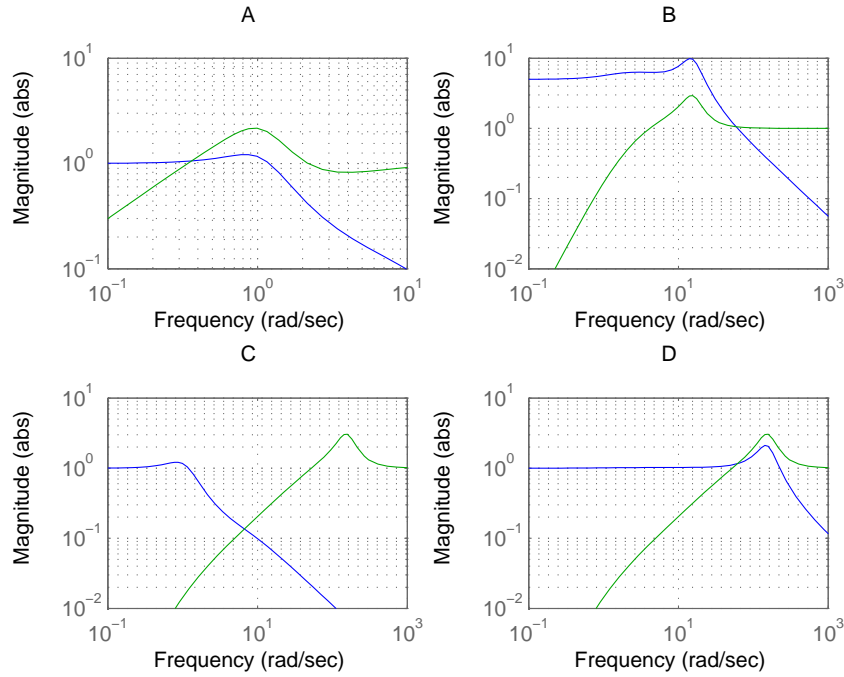

Figure 14.3 Magnitude plots of S and T in problem 6.
- c.** Figure 14.3 shows four plots, where one of the plots shows the sensitivity